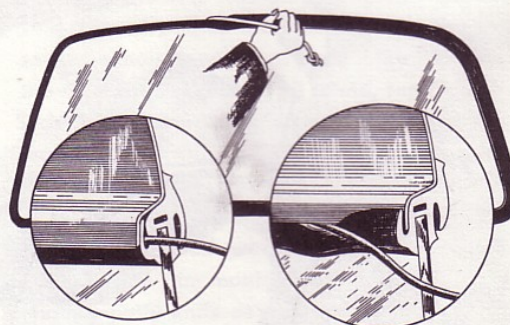

Fig. 41. Fitting windscreen.
3. Place the windscreen in position with rubber strips fitted. Wearing working gloves, carefully strike the windscreen a few blows with the palm of the hand so that it makes good contact all round. Then carefully pull out the cord from inside. This will cause the rubber strip to "creep" over the sheet metal edge as shown in Fig. 41. It may sometimes be necessary to adjust the position of the windscreen with the palm of the hand. If the cord is difficult to pull out, this may cause damage to the strip, in which case the windscreen should be struck with the palm of the hand either from inside or outside as necessary if the rubber strip does not "creep" over the edge of the sheet metal properly.